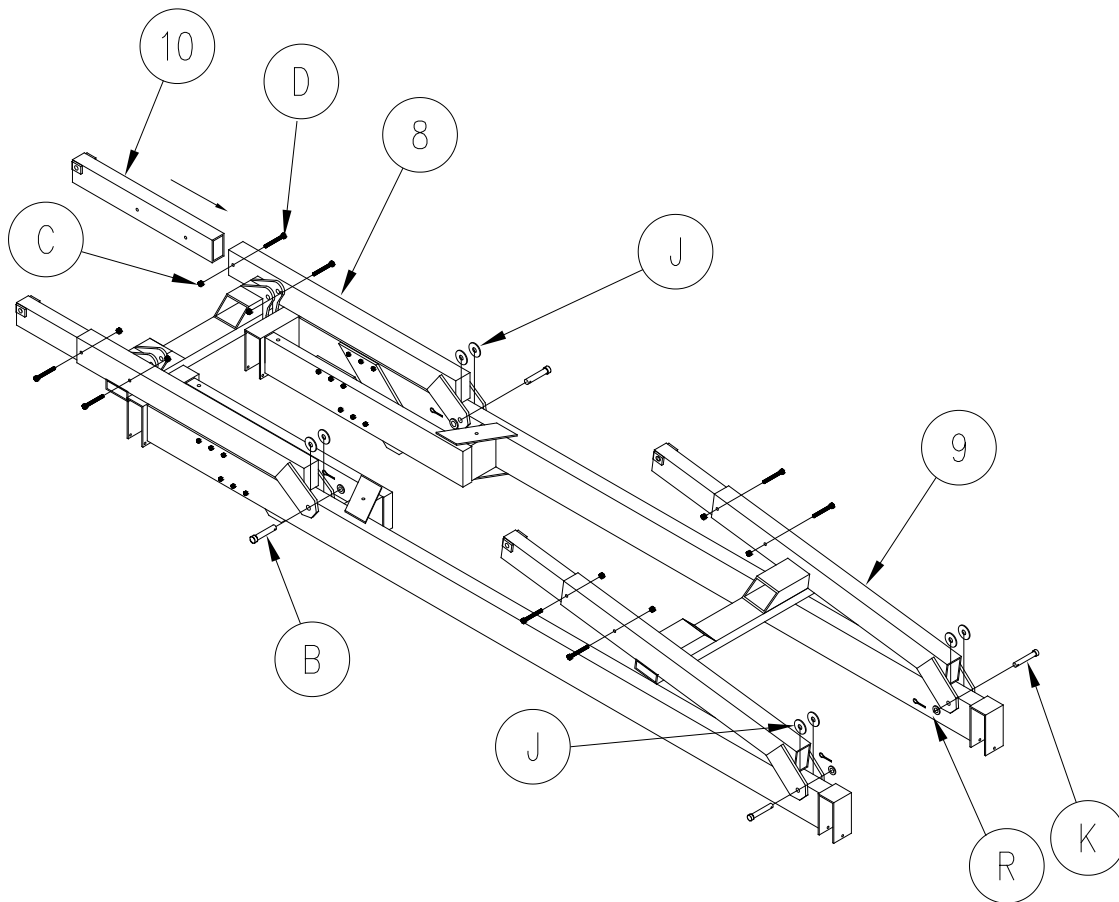

Figure 3-3.
1. Refer to **Figure 3-3**. Install rear lift arm (8) to the main frame. Before inserting clevis pin (B), install nylon washer (J) between the main frame and the lift arm pivot plates. Insert clevis pin (B) through the lift arm end plates and hole in the lift frame. Install flat washer (Q) and cotter pin (P) on each end of clevis pin. Secure clevis pin by spreading end of cotter pin apart and bending around clevis pin.
2. Install front lift arm (9) to the main frame. Before inserting clevis pin (K), install nylon washer (J) between the main frame and the lift arm pivot plates. Insert clevis pin (K) through the lift arm end plates and hole in the lift frame. Install flat washer (R) and cotter pin (P) on each end of clevis pin. Secure clevis pin by spreading end of cotter pin apart and bending around clevis pin.
3. Install lift arm extension tubes (10) to the front (9) and rear (8) lift arms. Use hardware (C) & (D) to secure the arm extensions to the lift arm.